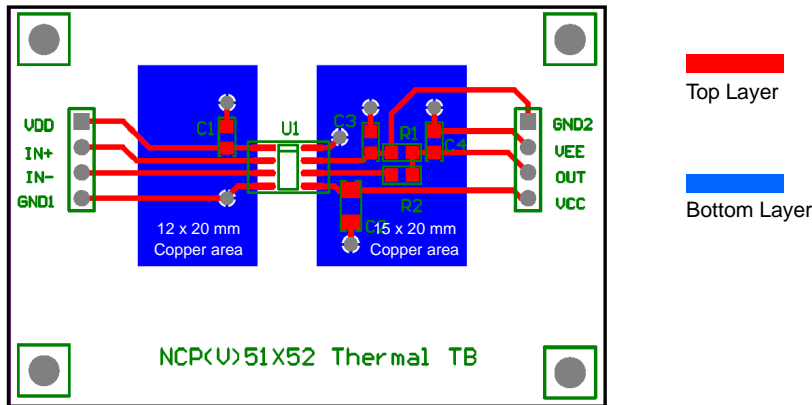

Figure 5. Reference Layout for the Type–B
- As specified for a reference layout shown in Figure 5. The DUT is mounted on a 60 x 40 x 1.6 mm FR4 substrate with an additional heat spreading copper of 240 mm²/300 mm² (Primary/Secondary). The copper thickness is 1 oz and test conditions is under natural convection or zero air flow.